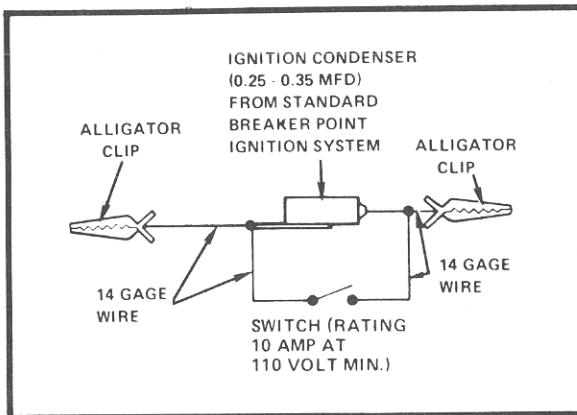

Figure 1 — Ignition Test Jumper
Make up a test jumper as shown in Figure 1 below. It is important to use only this test jumper when making these checks. Solid wire jumpers will not work for the quick checks.
- b. Unplug connector at **TFI Module**. In the harness side of the connector, connect the special test jumper (Figure 1) between ground and the **DG/Y** lead. Use a straight pin in connector socket hole to make contact.